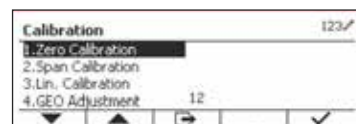

Figure 3
2. When Zero Calibration is highlighted, press the softkey corresponding to the ✓ icon to initiate. (See Figure 3)